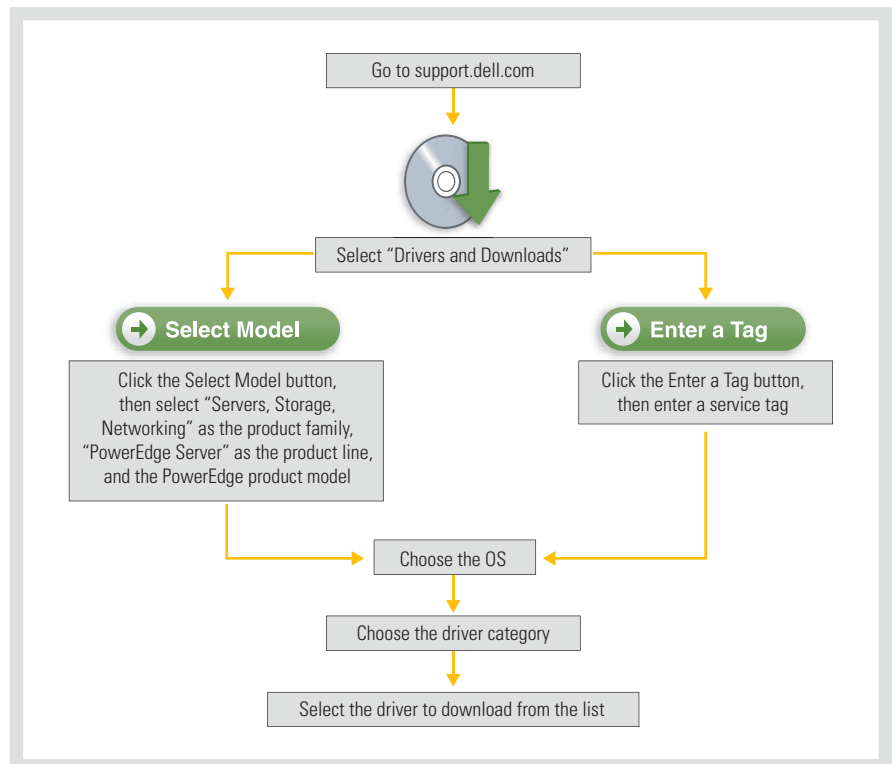

Figure 1. Process for locating and downloading device drivers on the Dell support Web site
- **Dell support Web site:** The Dell support Web site at support.dell.com is routinely updated with the latest drivers for PowerEdge servers. Figure 1 illustrates the process for locating and downloading drivers on this site.